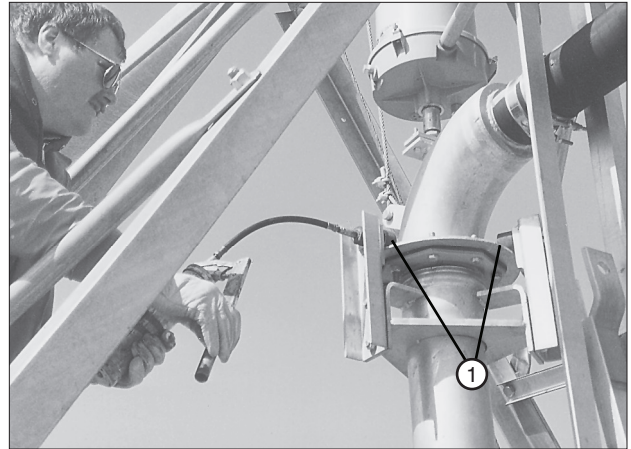

Figure 73-1 1. Upper Swivel Roller
1. Lubricate three (3) upper swivel rollers. See figure 73-1.